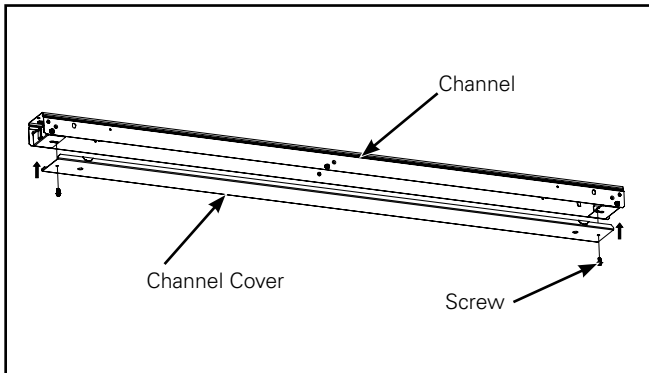

Figure 23.
5. Wire fixture according to code and install channel cover to channel with provided screws. (Figure 23.)